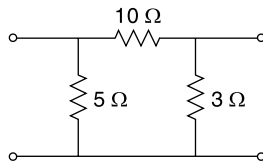

Fig. 4.56 Circuit of Ex. 4.39
4.39 Convert the π network shown in Fig. 4.56 into equivalent T network.
The network in Fig. 4.56 can be redrawn as shown in Fig. 4.56(a). Here R_1 , R_2 and R_3 in star combination represent the equivalent of the given delta network.